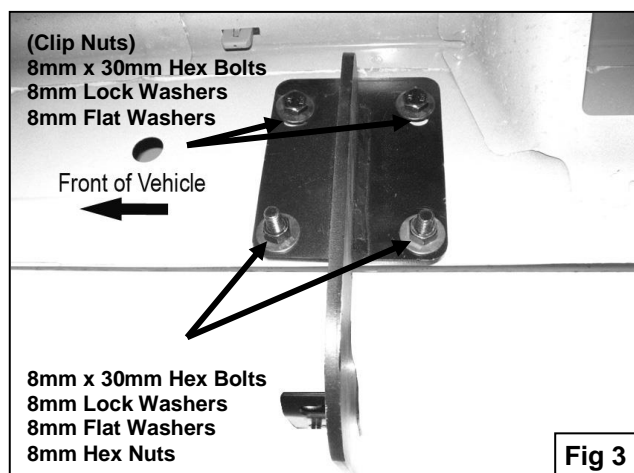

Fig 3
4. Partially attach passenger side Mounting Brackets to already inserted Clip Nuts using the included (3 or 4) 8mm x 30mm Hex Head Bolts, (3 or 4) 8mm Lock Washers, and (3 or 4) 8mm Flat Washers (**Figure 3**). **NOTE:** Cradles on the Mounting Brackets should face the front of the vehicle.
5. Attach bottom holes in the Mounting Bracket to pinch weld using the included (4) 8mm x 30mm Hex Head Bolts, (4) 8mm Lock Washers, (4) 8mm Hex Nuts, and (8) 8mm Flat Washers (**Figure 3**).